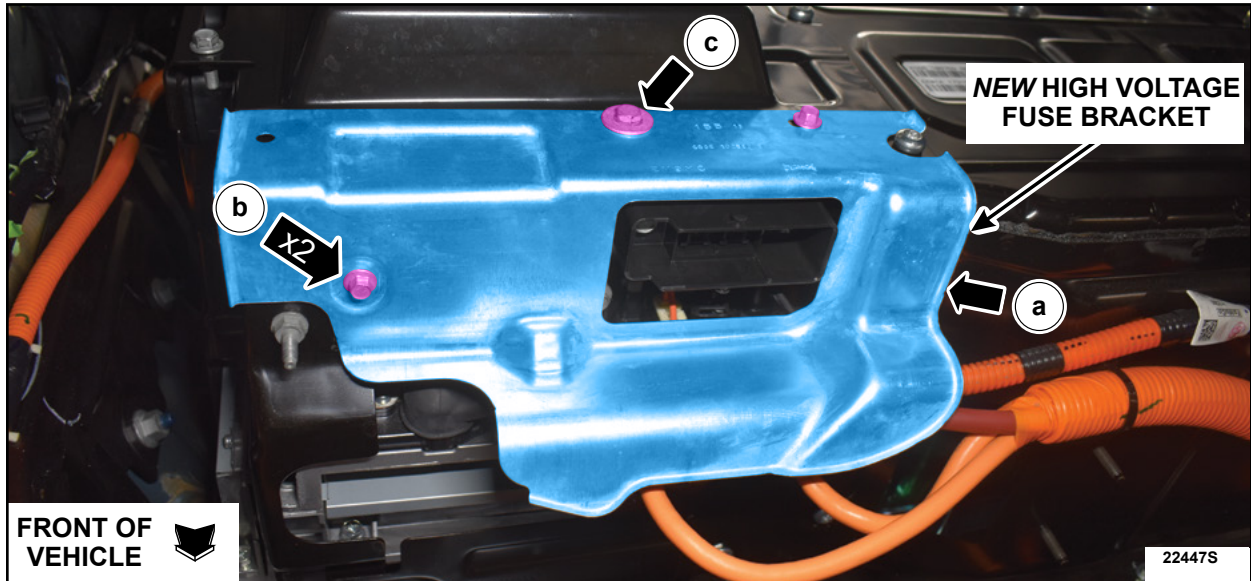

FIGURE 19
21. Install the *new* high voltage fuse bracket. See Figure 19.